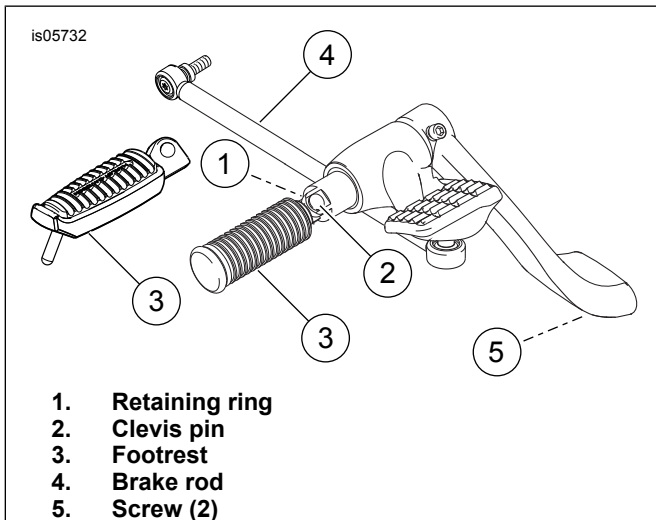

Figure 4. Remove Footrest Support Pedal and Brake Pedal
- See Figure 4. At the right footrest, remove the retaining ring (1) clevis pin (2), footrest (3) and spring washer. Discard all hardware. **For All Models Except XL1200L:** Save footrest for installation. **For XL883L and XL1200N Models:** Remove and discard wear peg (6). **For XL1200L Models:** Discard footrest.
- Remove the exhaust to access the brake rod (4). Follow the instructions in the service manual.
- Remove brake rod (4) from brake pedal and master cylinder bell crank. Discard brake rod.
- Remove the two screws (5) and right footrest/brake pedal support bracket with attached brake assembly from frame. Discard footrest support bracket and entire brake pedal assembly.